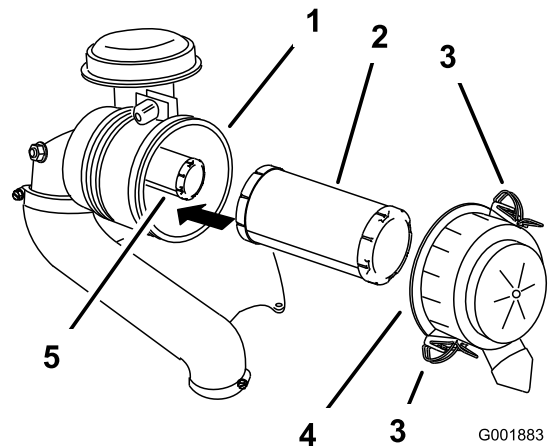

Figure 45
3. Release the latches on the air cleaner and pull the air cleaner cover off the air cleaner body (Figure 45).
- Gently slide the primary filter out of the air cleaner body (Figure 45).
- If the safety filter is being replaced, carefully slide it into the filter body (Figure 45).
- Carefully slide the primary filter over the safety filter (Figure 45).
- Install the air cleaner cover with the side indicated as up facing upward and secure the latches (Figure 45).